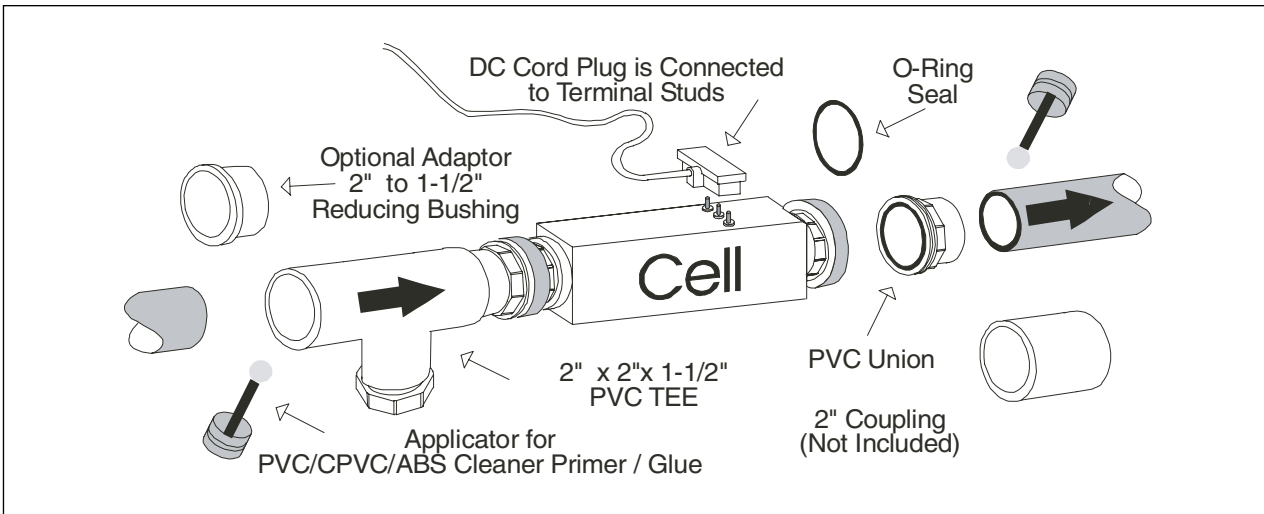

Figure 5. Cell Installation
2. The Flow/Temp/Salinity Sensor and Electrolytic Cell must be installed in the pool return line after the filter and heater. Water passes through the Flow/Temp/Salinity Sensor before the Cell. The Cell can be installed in either a horizontal, as shown (page 10 figure 5), or a vertical position.